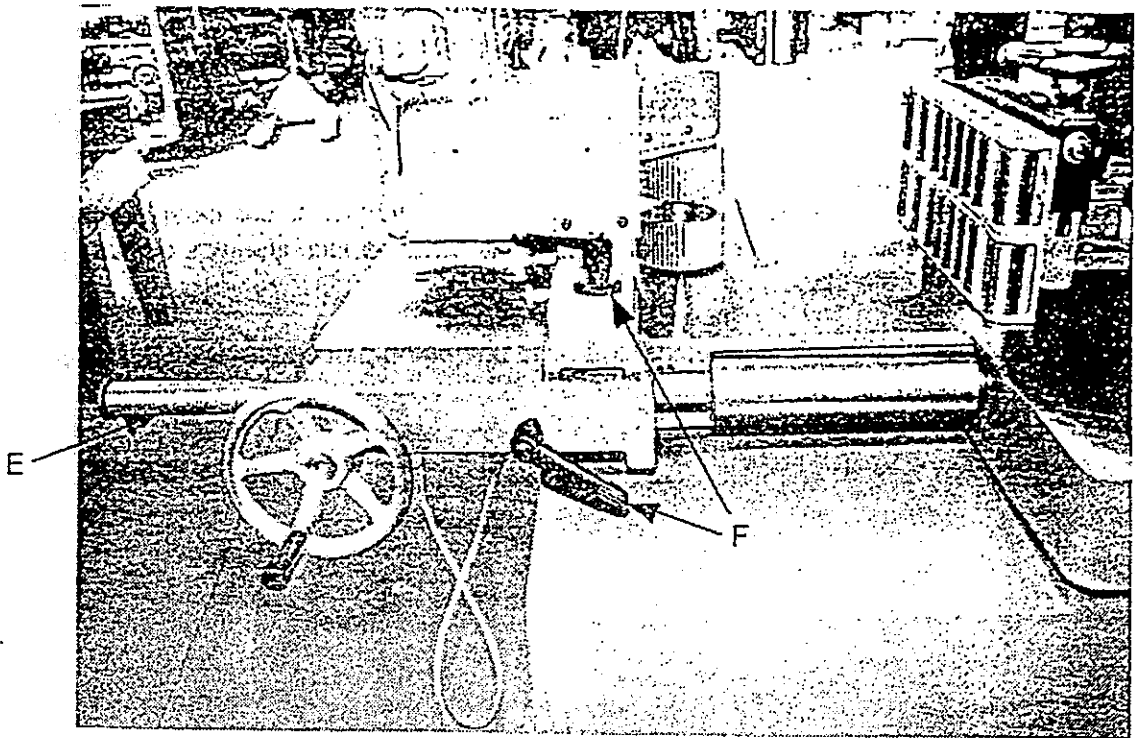

Fig 10
- The feeder to fence capacity is 310 (12") and slides on bar "E" (fig 10) in axis "X" then locked in desired position by handles "F" (fig 10).